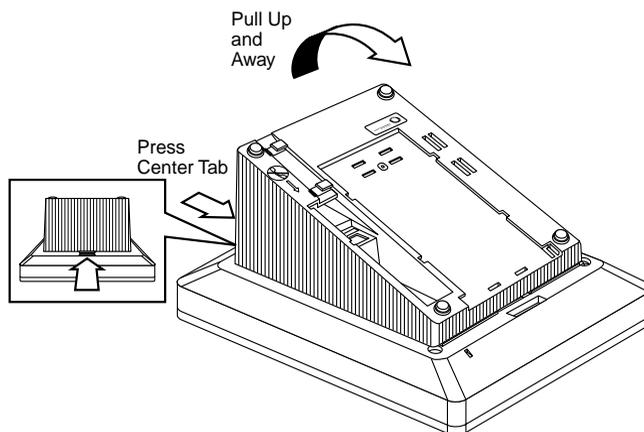
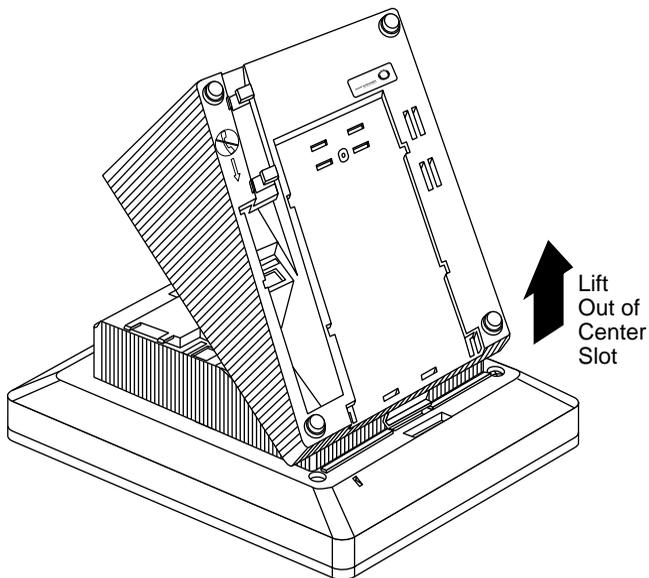

Figure 3-3. Releasing the Deskstand
Figure 3-4. Removing the Deskstand
- ▶ **2. Release and remove the deskstand from the telephone. See Figure 3-3 and Figure 3-4.**